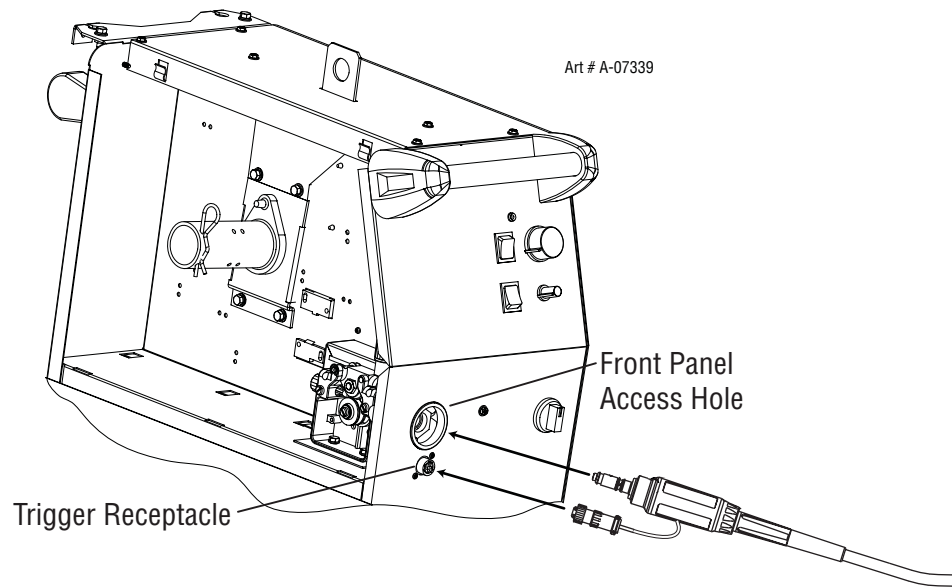

Figure 3-4: Route Gun Cable Through Access Hole and Connect Trigger
- 2) Route the gun cable through the access hole in the front panel. Refer to Figure 3-4.